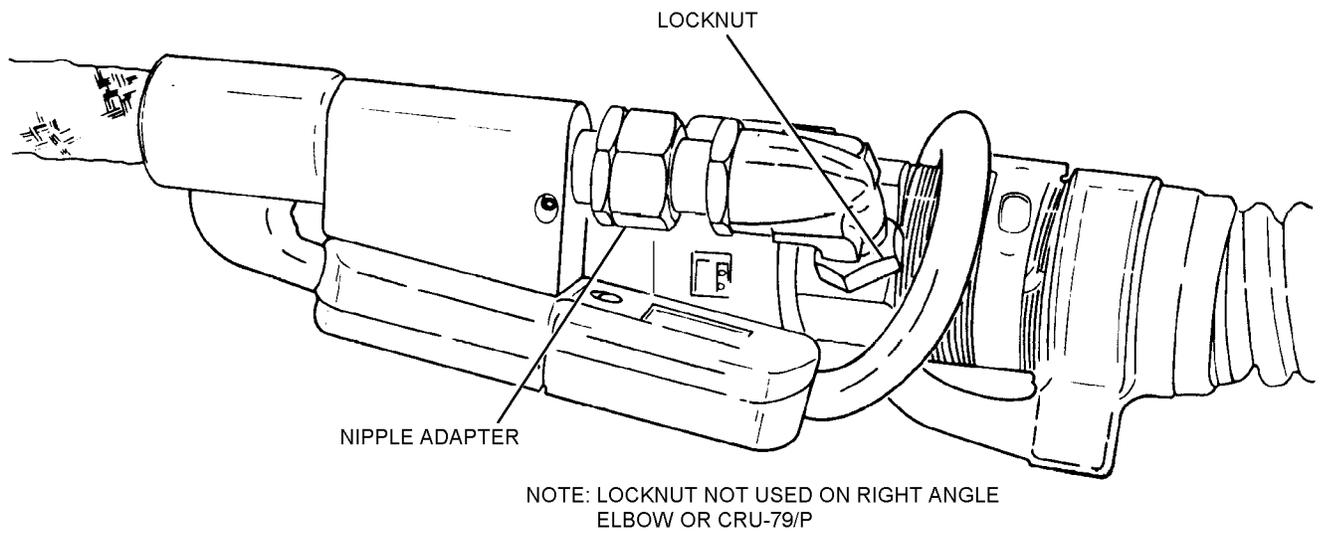

Figure 5-10. Assembly of Hoses to the CRU-79/P Series Regulator
6. Thread one locknut onto regulator-to-seat kit hose connection. Teflon face on locknut shall face toward female port of adapter assembly. See figure 5-10.
7. (CRU-79/P series regulators without installed 90° elbow only) Thread one locknut onto male-threaded portion of 90° elbow. Teflon face of locknut shall face toward the regulator during installation of the 90° elbow. See figure 5-10.
8. (CRU-79/P series regulators without installed 90° elbow only) Thread 90° elbow into inlet port of regulator hand tight. Using a wrench tighten 90° elbow a minimum of one full turn. An additional one turn can be used as required until 90° elbow is tight and orientation of female port of the fitting is pointing the opposite direction of the regulator outlet. Tighten locknut until flush with regulator body, once flush tighten locknut an additional one quarter of a turn until tight. See figure 5-10.
9. (All CRU-79/P series regulators) Thread one locknut onto male-threaded portion of nipple adapter coupling (see figure 5-10). Teflon face on locknut shall face toward 90° elbow during installation. Thread nipple adapter coupling into 90° elbow hand tight. Using a wrench tighten adapter coupling one turn. An additional one turn can be used if required until adapter is tight. Tighten locknut until flush with 90° elbow, once locknut is flush tighten locknut an additional one quarter of a turn or until tight. See figure 5-10.
10. Thread regulator-to-seat-kit hose into nipple adapter a minimum of two full turns until tight and proper orientation is achieved (see figure 5-10). Tighten locknut until locknut is flush with the nipple adapter, once locknut is flush with nipple adapter tighten locknut an additional one quarter of a turn or until tight.